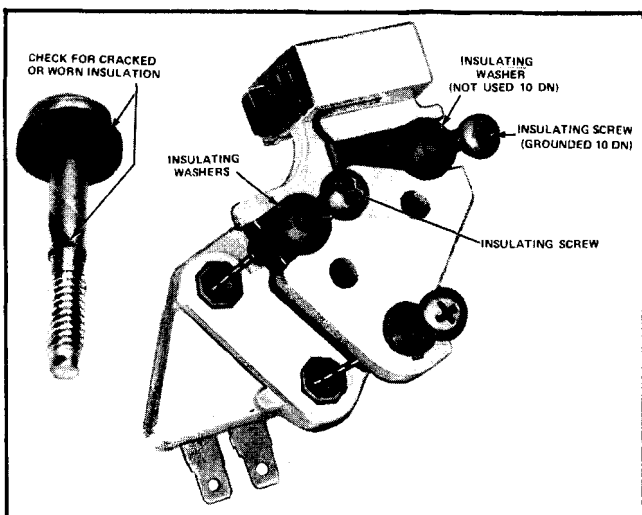

Fig. 6E-36A Brush Holders
3. Remove brush holder and brushes. The voltage regulator (SI) or terminal and spacer assembly (10 DN) may also be removed at this time. Carefully note stack-up of parts (Fig. 6E-36A) for reassembly.